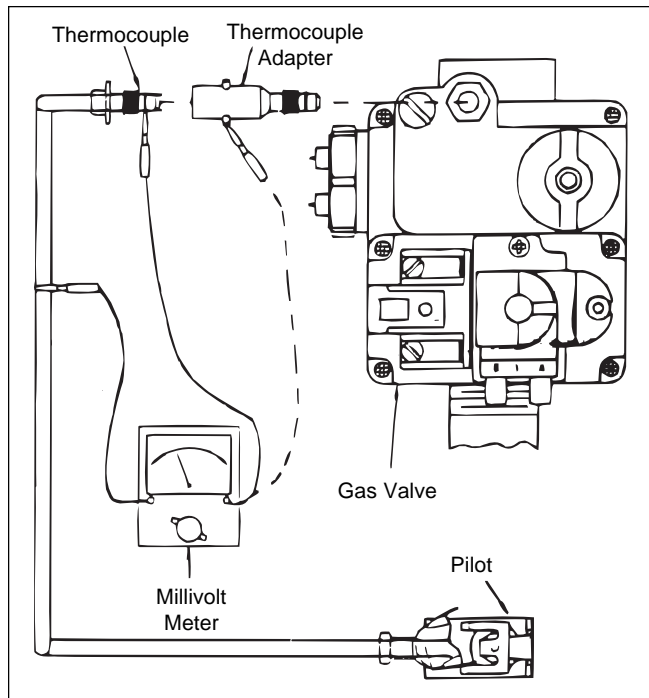

Figure 41. Testing the pilot thermocouple.
5. To test the pilot thermocouple under load, screw the pilot thermocouple into the end of a millivolt reading adapter (see Figure 41).